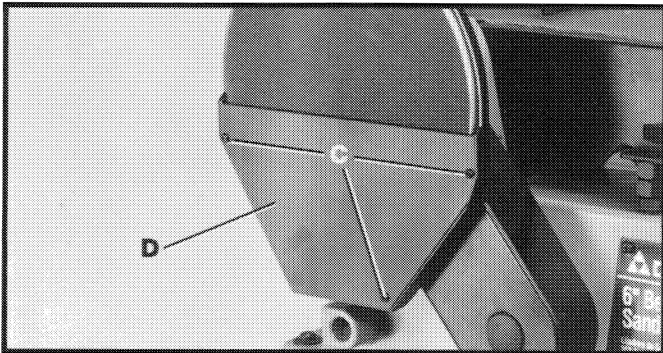

Fig. 45
3. Remove three screws (C) Fig. 45, and lower cover (D).